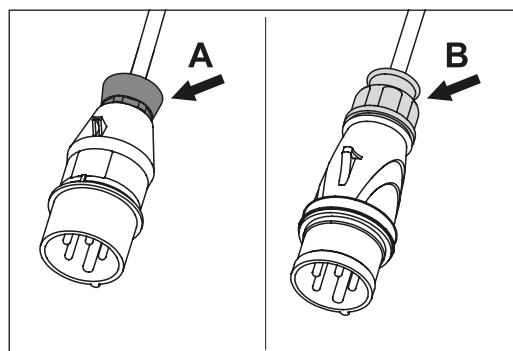

Fig. 22 Original LÄGLER® plug with **red** nut (A) or **yellow** nut (B).
- 2 Original LÄGLER® plug with **red** nut at the cable outlet (fig. 22, **A**):
Original LÄGLER® plug with **yellow** nut at the cable outlet (fig. 22, **B**):